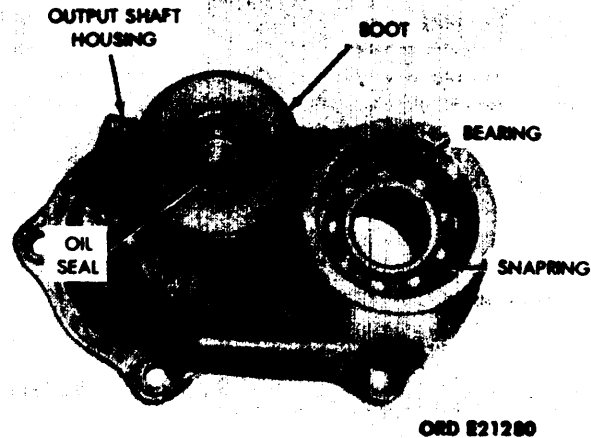

Figure 5-25. Removal of Rear Output Shaft Bearing and Shifter Shaft Boot and Oil Seal.
(1) Using a pair of snapping pliers, remove the bottom and top snaprings securing the rear output shaft bearing in the housing and remove the bearing. (See fig. 5-25.)
- a. Rear output shaft bearing and shifter shaft boot and oil seal. (See fig. 5-25.)